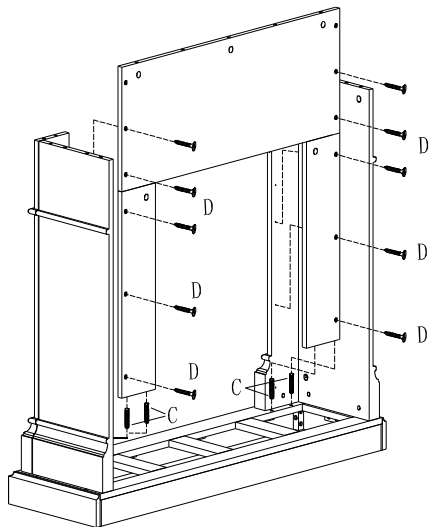

Figure 4
ATFER FINISHED FIGURE 4, INSET (A) CAM BOLT & (C) WOOD DOWEL INTO THE RELATED HOLES,THEN INSERT (B) CAM LOCK TO CONNECT (1) TOP PANEL.